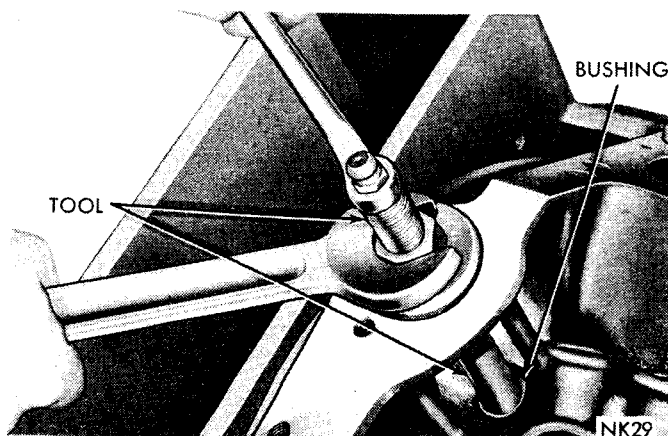

Fig. 32—Burnishing Distributor Drive Shaft Bushing
(3) As the burnisher is pulled through the bushing by tightening the puller nut, the bushing is expanded tight in block and burnished to correct size (Fig. 32).